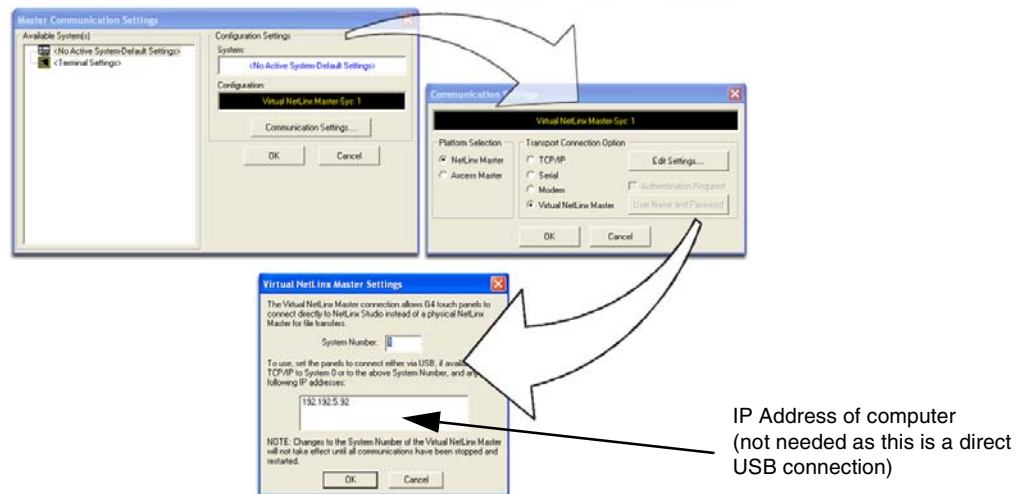

FIG. 77 Assigning Communication Settings for a Virtual Master
3. Select **Settings > Master Communication Settings**, from the Main menu to open the Master Communication Settings dialog (FIG. 77).
7. Click the **Edit Settings** button (on the *Communications Settings* dialog) to open the *Virtual NetLinx Master Settings* dialog (FIG. 77).